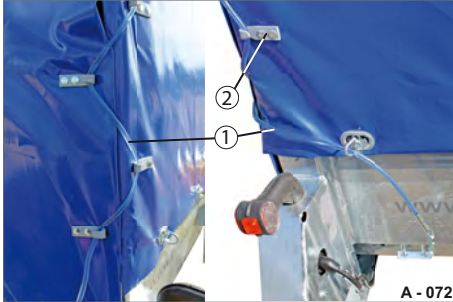

Fig. 76 Unlocking rear curtain section
- ▶ Release the tensioning rope (Fig. 76/1) from the latches at the rear.